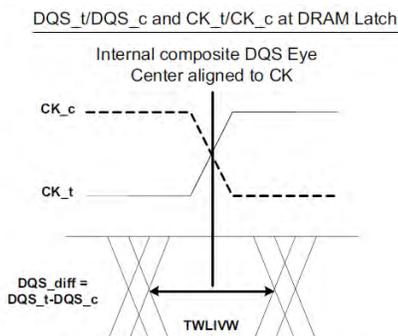

Figure 25. DQS_t/DQS_c to CK_t/CK_c timings at the DRAM pins referenced from the internal latch
- 28) tWLIVW is defined in a similar manner to tDIVW_Total, except that here it is a DQS input valid window with respect to CK. This would need to account for all VT (voltage and temperature) drift terms between CK and DQS within the DRAM that affect the write-leveling input valid window. The DQS input mask for timing with respect to CK is shown in Figure 25. The "total" mask (tWLIVW) defines the time the input signal must not encroach in order for the DQS input to be successfully captured by CK with a BER of lower than tbd. The mask is a receiver property and it is not the valid data-eye.